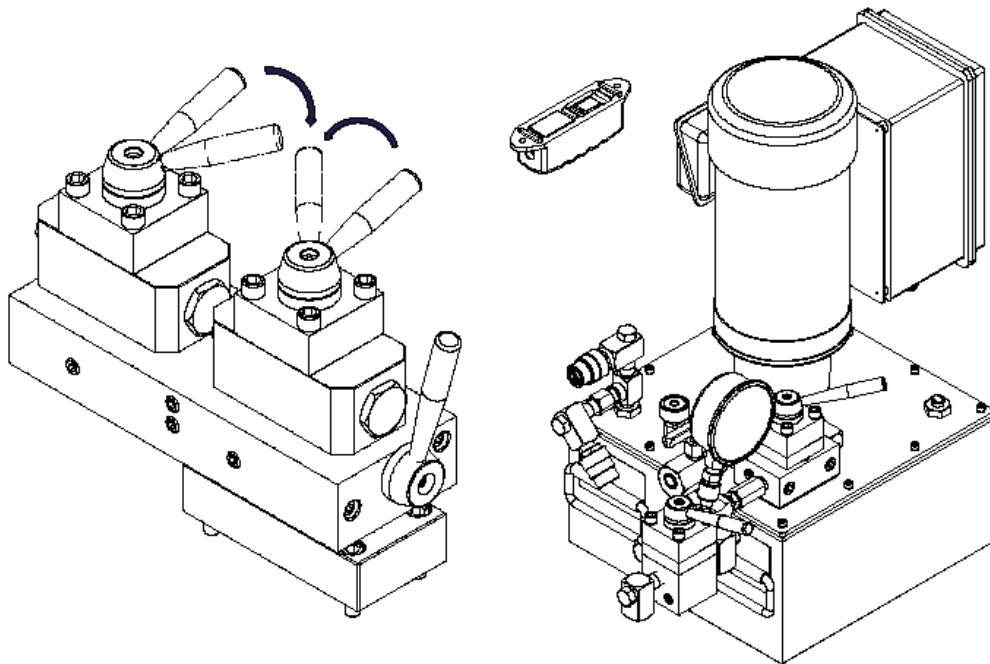

Figure 5-1 – Closing Puller Jaws
- 5.2.5 Switch the control panel as shown in Figure 5-1 to tightly close the jaws around the part to be pulled.